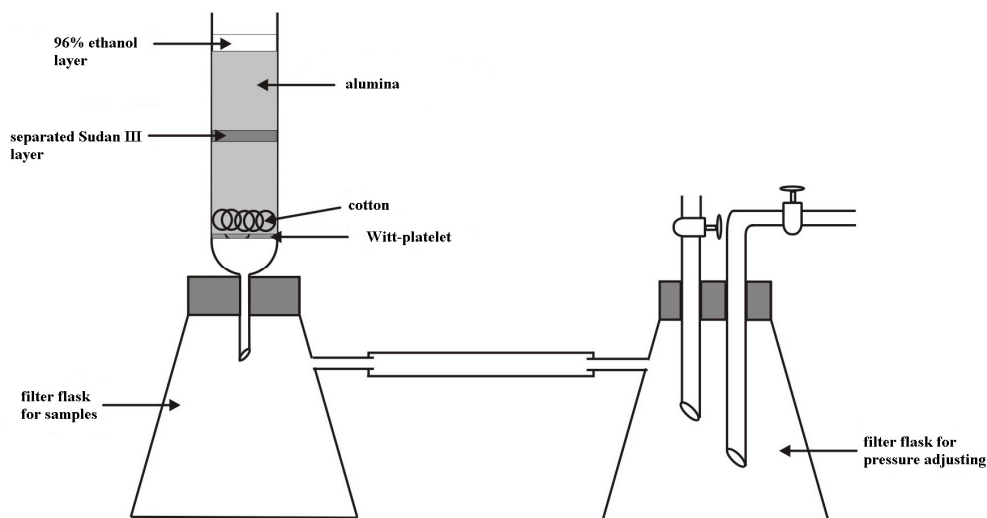

Figure 2. Chromatographic apparatus
1. Assemble the apparatus shown in Fig. 2. Turn on the water aspirator. Vacuum is controlled by the stopcock on the top of the second filter flask (buffer flask). Replace the Witt platelet and put an even layer of 2-3 mm of cotton over it.